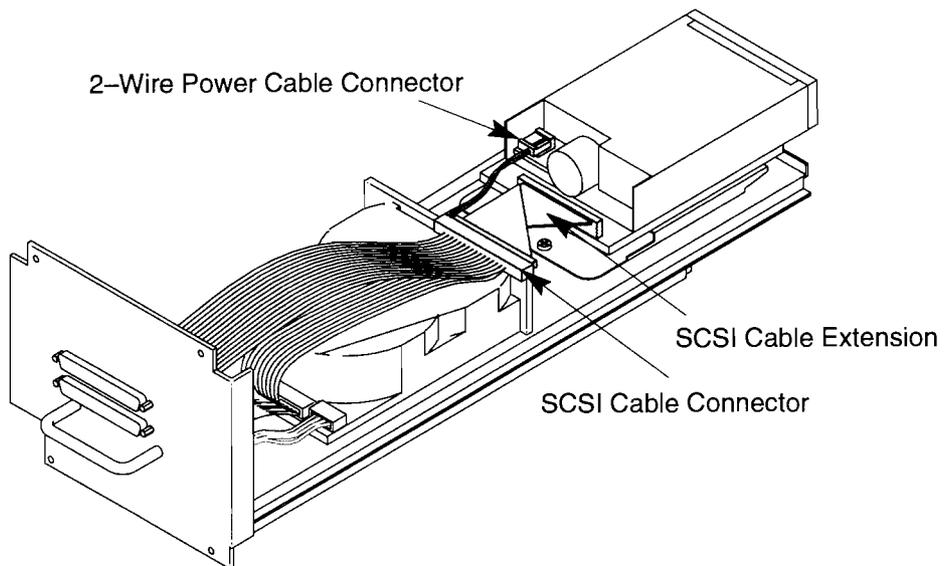

Figure B-20. Connecting Cables to the Floppy Disk
2. Plug the **2-wire** power cable connector into the floppy power connector (see Figure B-20). Line up the pins on the connectors and press firmly until you hear a click.
3. Plug the SCSI cable connector into the SCSI cable extension (see Figure B-20). Line up the pins on the connectors and press firmly until you hear a click.